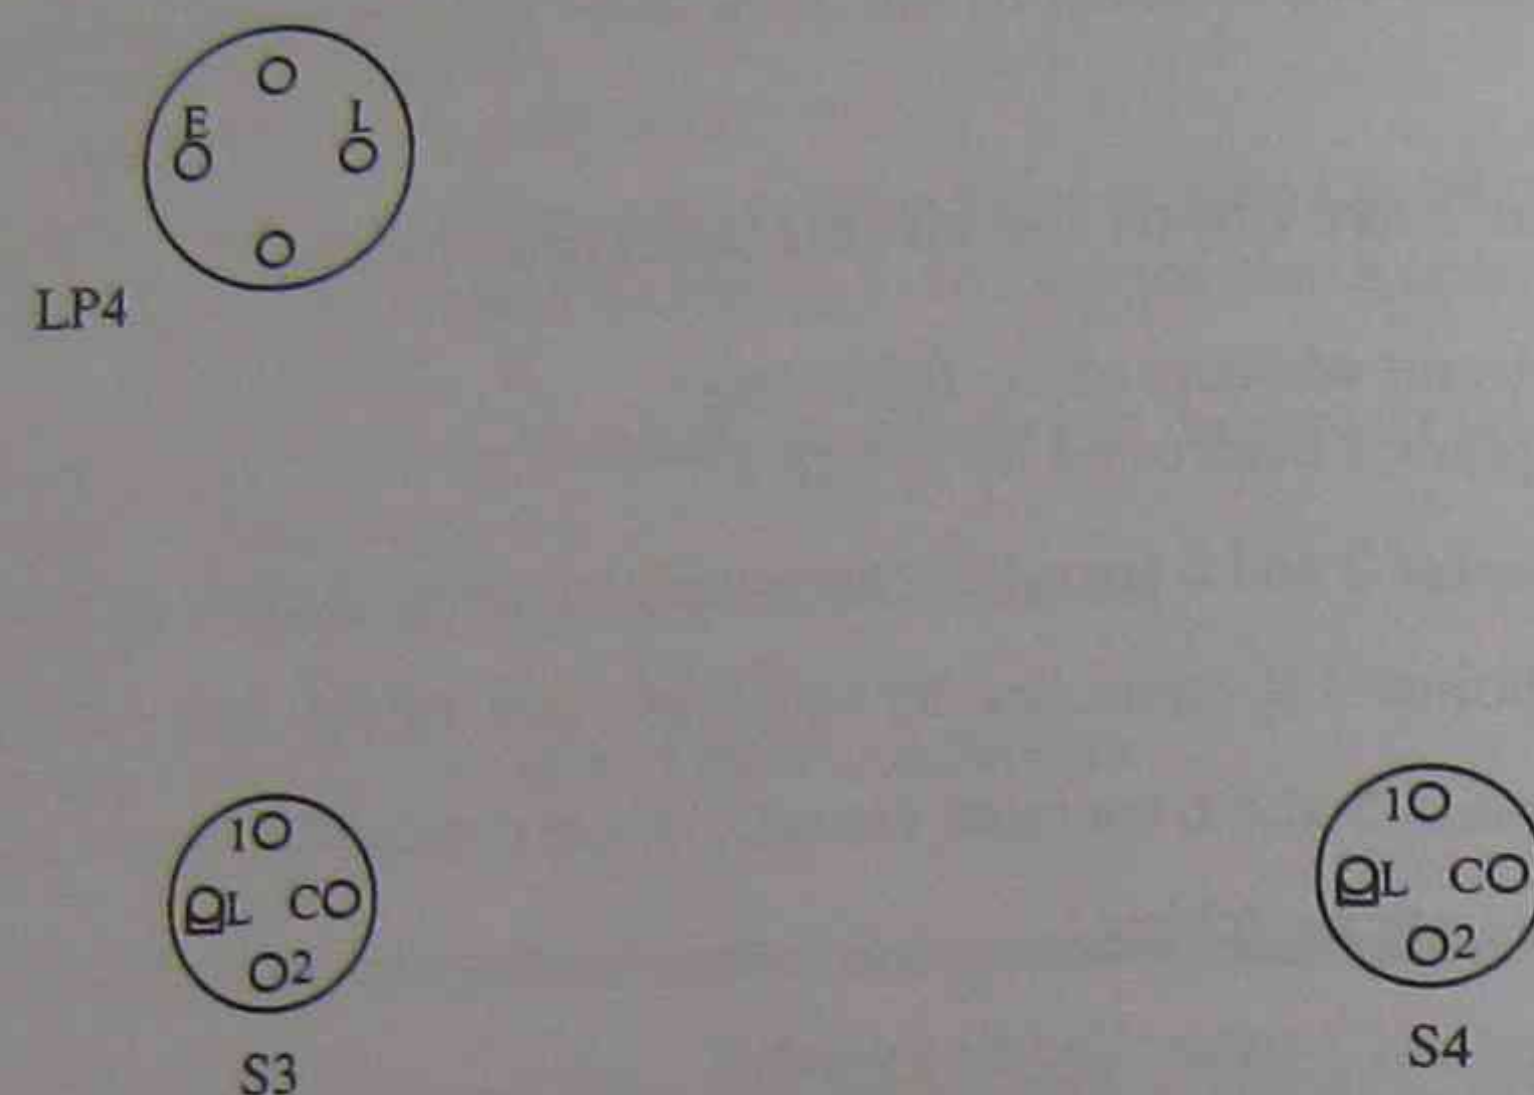

Figure 10 Wiring diagram for lighting point 4 and switches 3 and 4
5. Complete the wiring diagram of Figure 10 by drawing the connections required at lighting point 4 and switches 3 and 4. Also show the incoming and outgoing conductors.